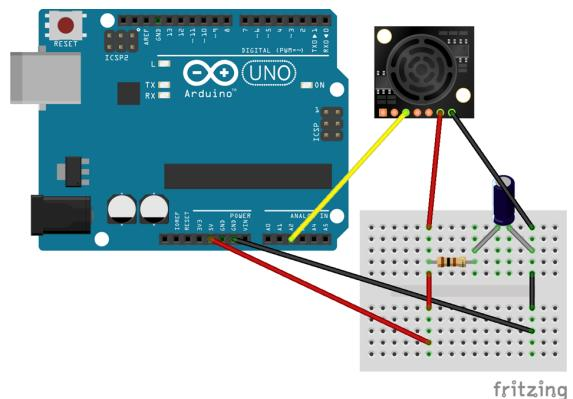

Figure 12-5 Fritzing diagram of sonar sensor array
5. Wire up the sensor array according to Figures 12-5 and 12-6, which will also require the 100 ohm resistor and the 100 uF capacitor.